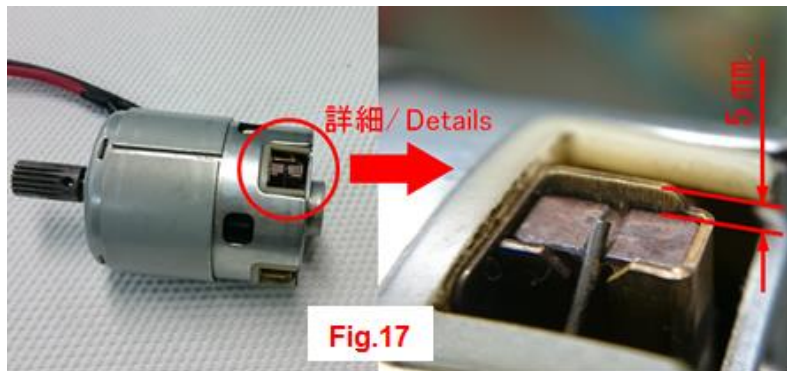

Fig.17
⑨ Inspection of the starter motor
- iii) Measure the gap between the Brush end face and the Brush guide end face (Fig. 17) with a pair of Vernier caliper. In case the gap is 5.0mm or more, replace the starter motor.